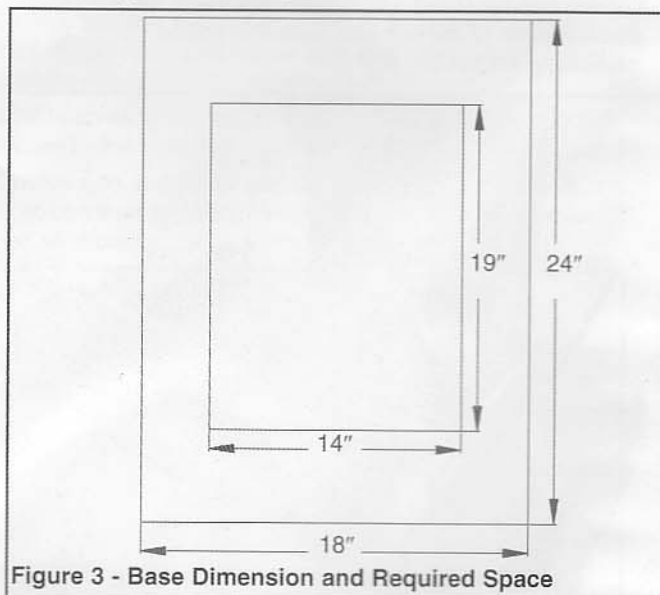

Figure 3 - Base Dimension and Required Space
- Figure 3 shows the base dimensions, mounting holes and required space to allow for table assembly and belt assembly in horizontal position.